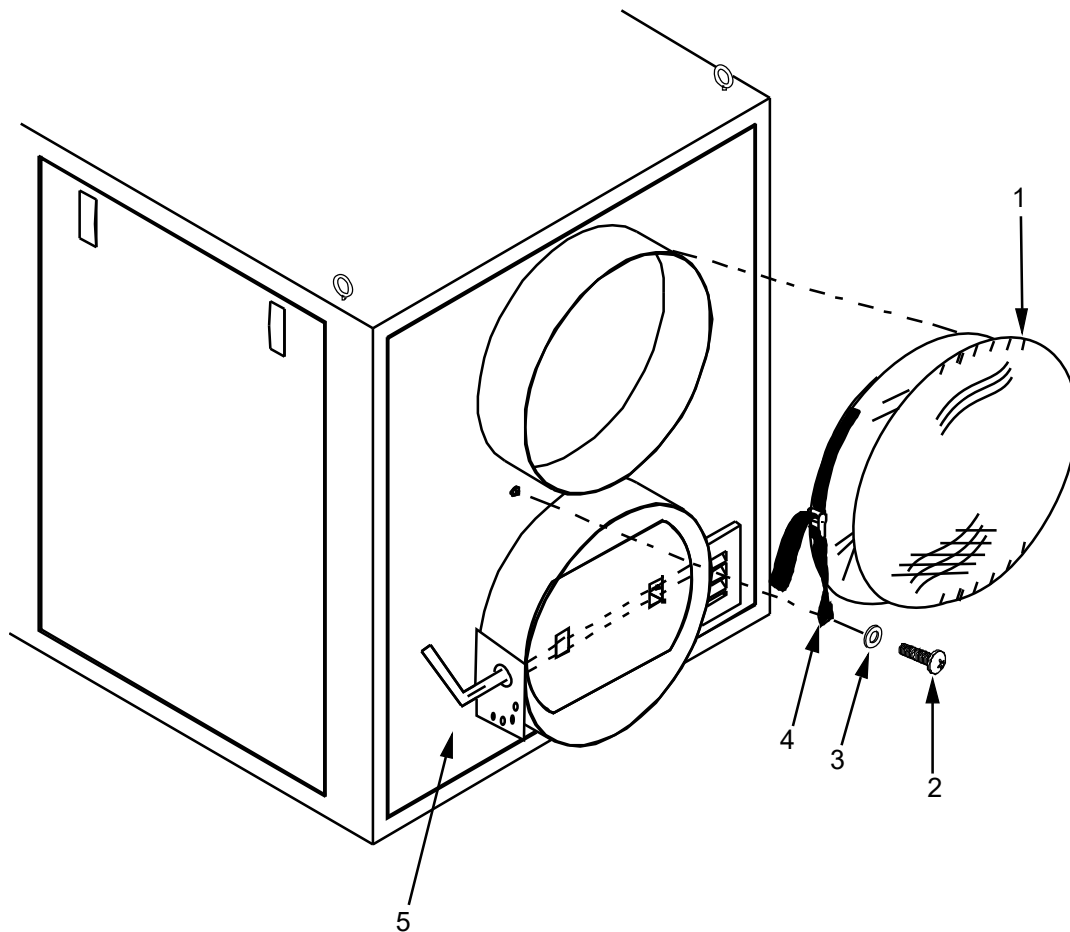
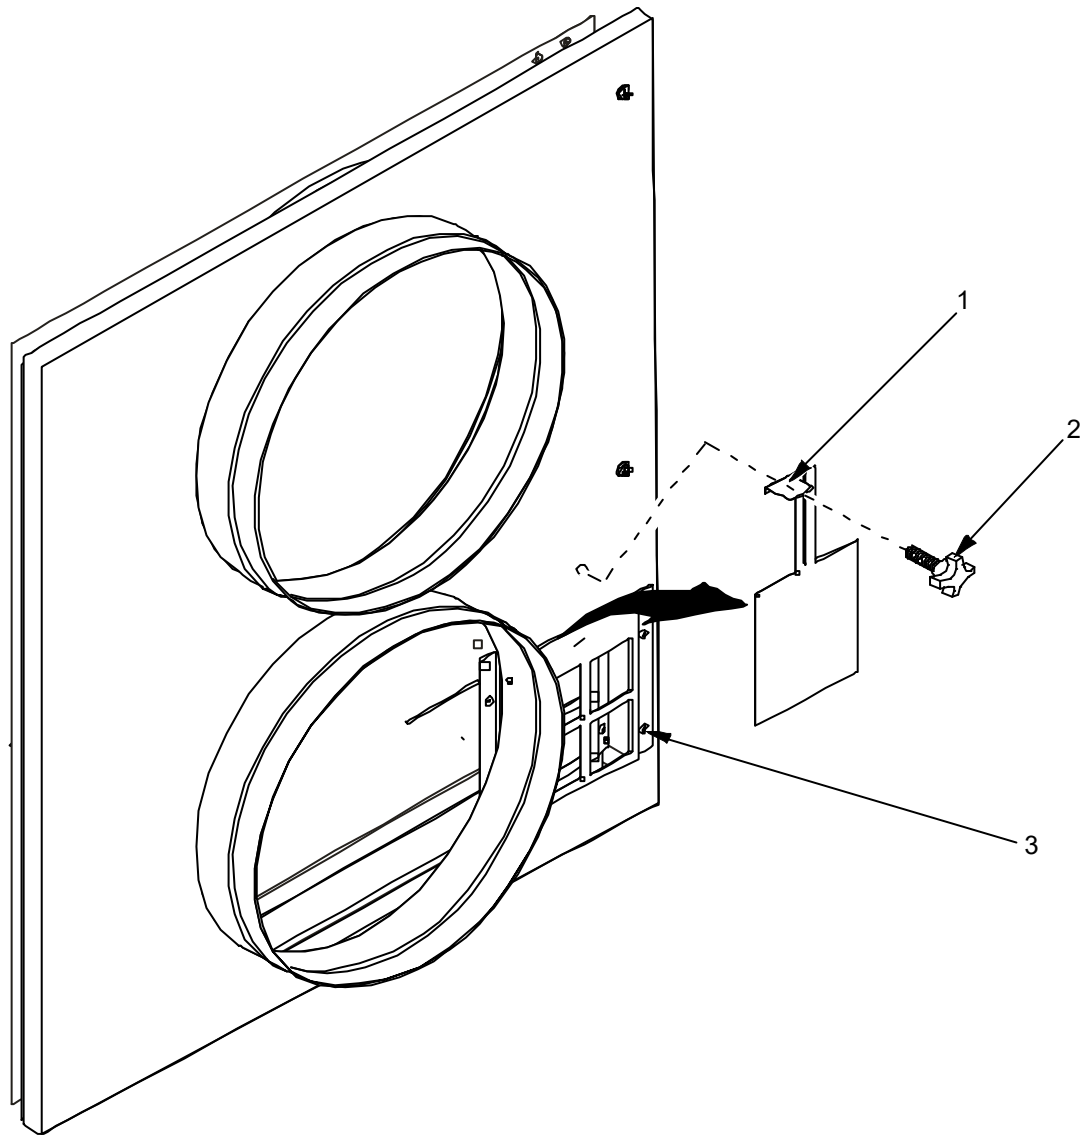

Figure 2. ECU Duct Cover Replace.
Figure 3. ECU Fresh Air Intake Gate Replace.
3. Remove screw (Figure 2, Item 2) and washer (Figure 2, Item 3) that secures lanyard (Figure 2, Item 4) of duct cover (Figure 2, Item 1) to the ECU evaporator assembly panel (Figure 2, Item 5)
4. If the duct cover (Figure 2, Item 1) is unserviceable, discard and replace.
1. Slide the lanyard (Figure 2, Item 4) through hole in duct storage cover (Figure 2, Item 1).
4. Attach washer (Figure 2, Item 3) to mount screw (Figure 2, Item 2) and insert through loop in end of the lanyard (Figure 2, Item 4).
5. Insert screw (Figure 2, Item 2) into hole in ECU evaporator assembly panel (Figure 2, Item 5) and tighten down.
2. Remove fresh air intake door (Figure 3, Item 1) by turning knob (Figure 3, Item 2) counter clockwise until loose.
3. Remove and retain knob (Figure 3, Item 2).
4. Remove fresh air intake door (Figure 3, Item 1) out of housing (Figure 3, Item 3).
1. Insert fresh air intake door (Figure 3, Item 1) down into the housing (Figure 3, Item 3).
2. Insert knob (Figure 3, Item 2) and turn clockwise to tighten.
3. Adjust the fresh air intake level by loosening knob (Figure 3, Item 2) and sliding fresh air intake gate (Figure 2, Item 1) to desired position. Tighten knob (Figure 3, Item 2).